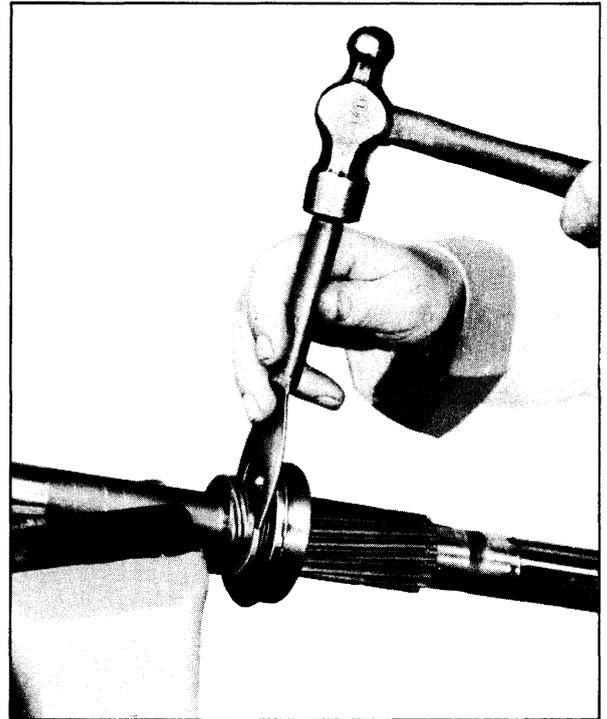

Fig. 11-24 Removing Rear Bearing Retainer Ring
1. Remove rear bearing snap ring as shown in Fig. 11-24.